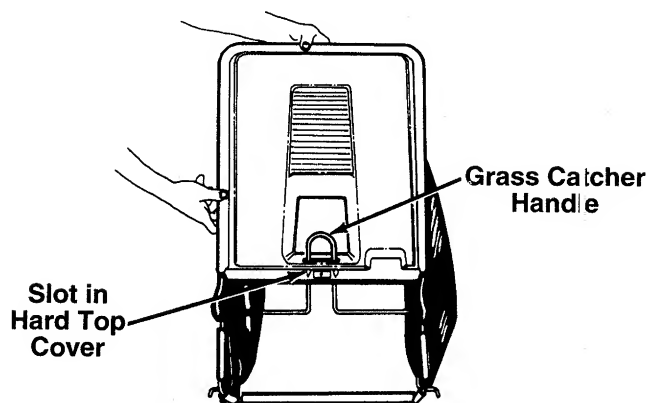

FIGURE 11.
5. Slide the handle on the grass catcher frame into the slot in the hardtop cover from beneath the cover. See figure 11. ←